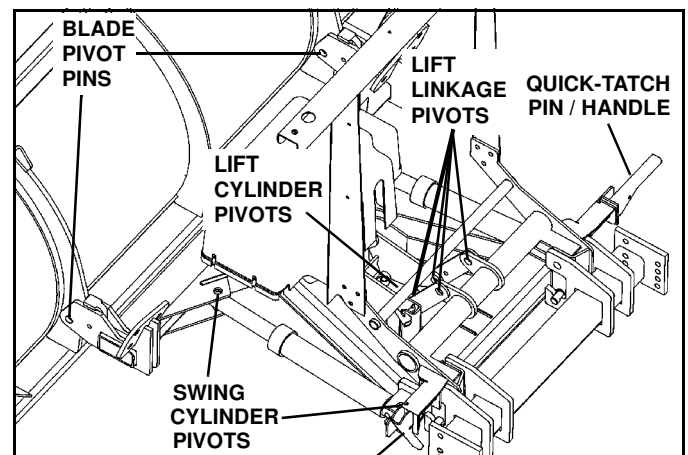

Figure 2-1
2. Apply a small amount of light oil to: Quick-tatch pin and handle assemblies, pivot pins between the blade and swing frame, and pivot pins at lift, swing and wing (29R Series only) cylinders. Also lubricate jackstand pins. (See Figure 2-1)